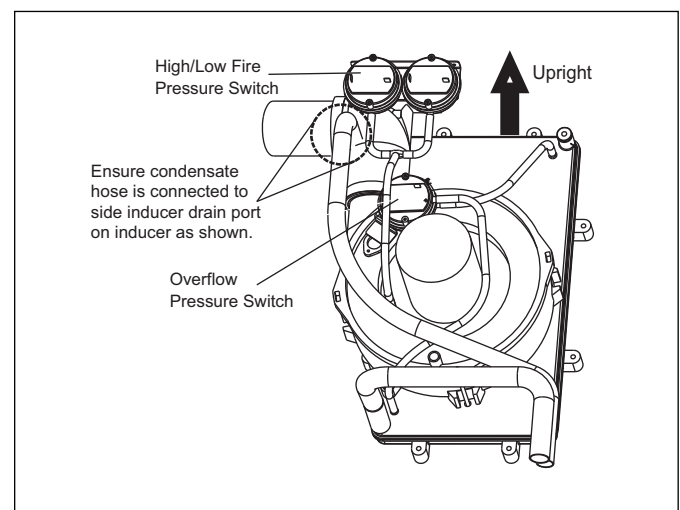

Figure 17 Pressure Switch Position
- ▶ For horizontal left hand installation (air discharge to the left), condensate overflow pressure switch hoses need to be rerouted (see Figure 17).